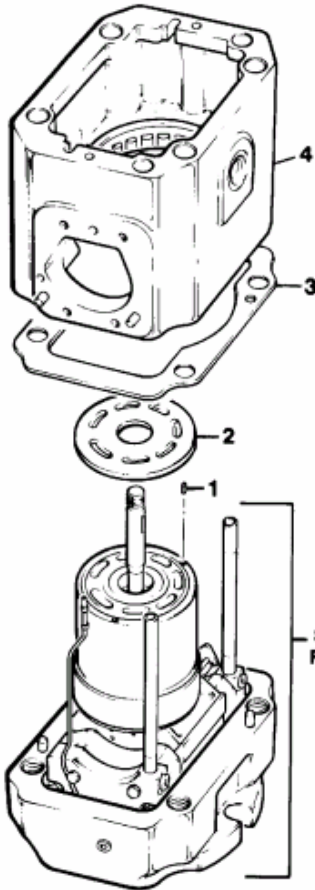

Figure 6
**See Figure 6.** Install the three face plate pins (1) in the holes provided in the barrel face.
**PARTS LIST FOR FIGURE 6**